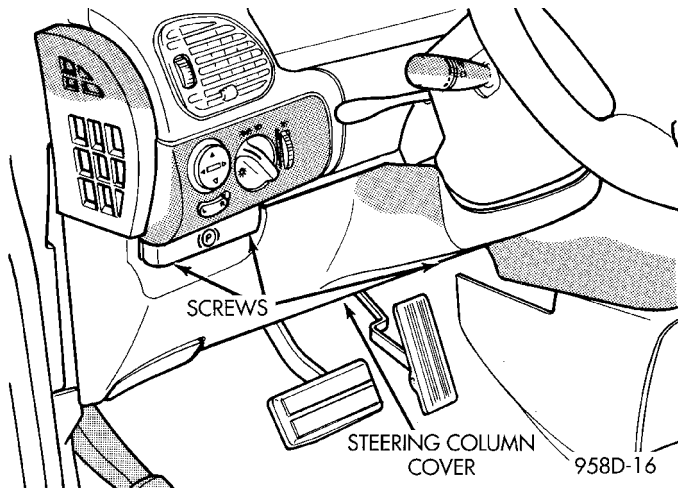

Fig. 3 Steering Column Cover
- (1) Disconnect negative cable from battery.
- (2) Remove steering column cover retaining screws (Fig. 3).
- (7) Depress retaining tab (Fig. 3) or (Fig. 8) and gently pry ignition switch from steering column (Fig. 9).